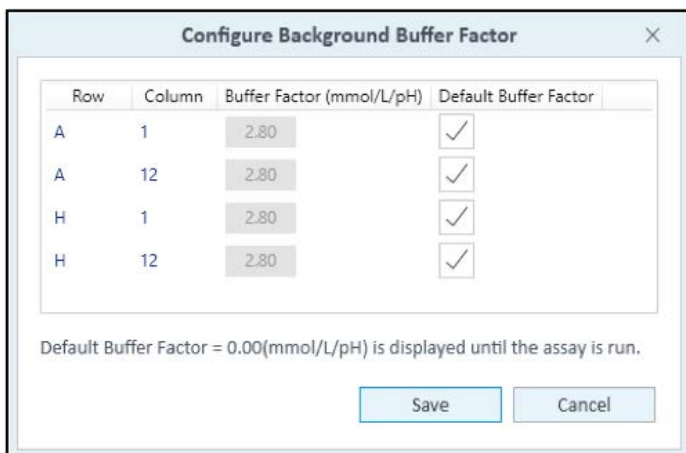

Figure 3. Configure background buffer factor
- To configure Background Well Buffer Factor, click **Assay Media**. (See Figure 3.)
- Under the column header **Default Buffer Factor**, check the boxes next to each background well, and click **Save**. (See Figure 3.)